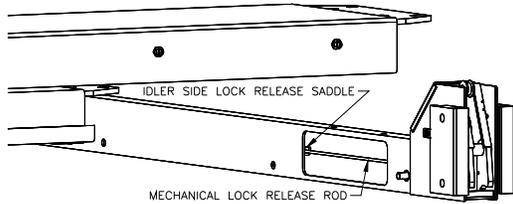

Fig 8 – Mechanical Lock Rod
- 10) Remove the four (4) cross beam sheaves (one sheave from each end). The runway sheave pins do not need to be removed.
- 11) Place the mechanical lock release rod into the saddle on the idler side of the cross beam, **Fig 8**.